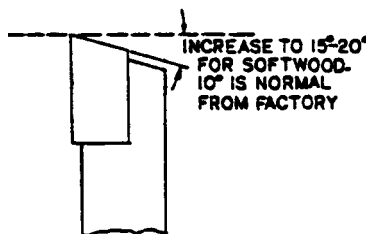

fig. 15
Your stump cutter is equipped with carbide tipped teeth. (Items 24d, 24e, 24f, pg. 15) Carbide retains its sharpness longer, cuts faster and smoother and can withstand heat, but they will wear. Sharpen the teeth before excessive wear or when they look dull or rounded. Check the teeth on the cutter head after each use. Always check the 45-degree tooth first because it is the most abused being a "digger and leader". Any cutter tooth with less than a 10-degree relief (see fig. 15, pg. 14) will cause poor performance, smoke and burn marks. By keeping the teeth sharp, you will prevent frustration at the job site. It only takes a few minutes to touch them up before you go out on a job. If the unit receives heavy use, a second cutter head assembly can be purchased as a back up while the other head is being sharpened.
9. Although the angle is not critical, always grind the tooth so that there is enough "relief" under the carbide edge (minimum 10 degrees). (Figure 15)